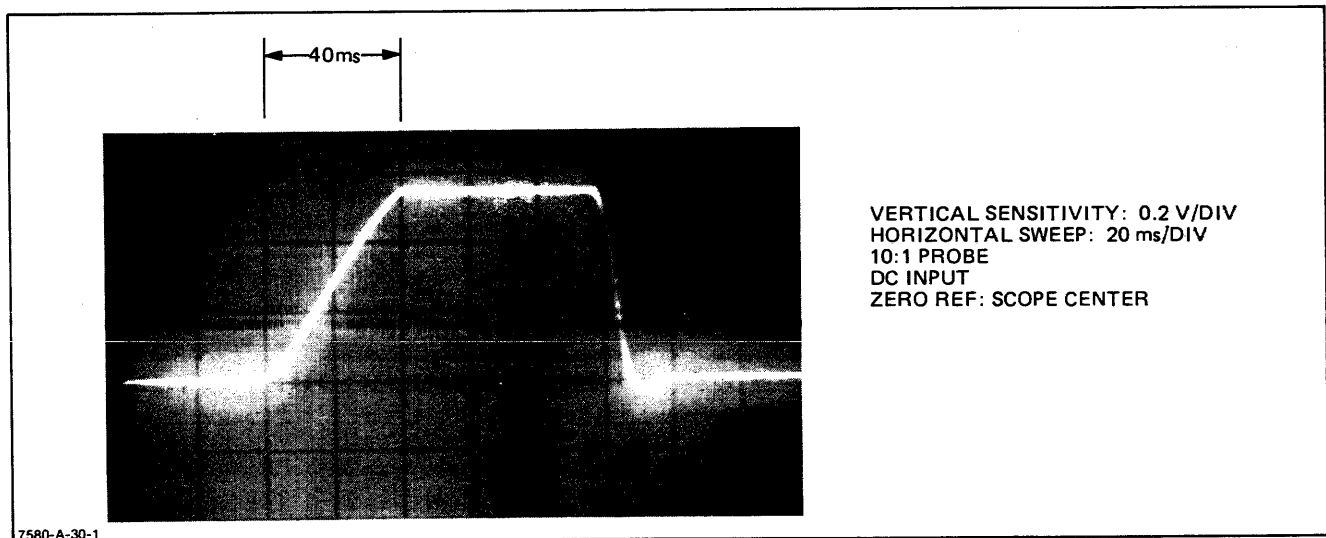

Figure 3-5. Pen Damping Adjustment Waveform
- aa. Adjust the SPRING COMPENSATION adjustment potentiometer R105 on the Internal I/O PCA A5 fully clockwise (CW).
- aj. Adjust the PEN DAMPING potentiometer R107 on the Internal I/O PCA A5 for a 40 millisecond rise time on the waveform as shown in Figure 3-5.